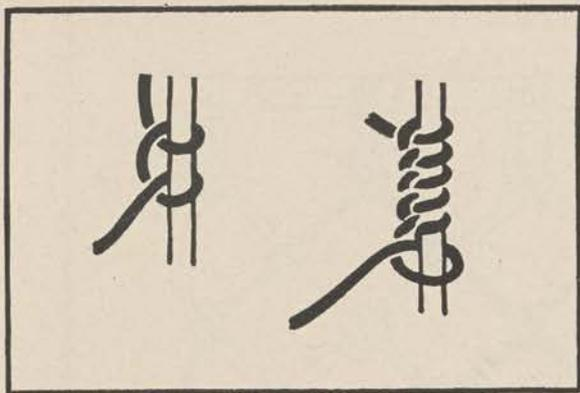

Figure 161.
*b.* The basic knot consists of at least two hitches or turns of the cord around its core (fig. 161). The illustration also shows how a series of half hitches can be tied with the same cord.